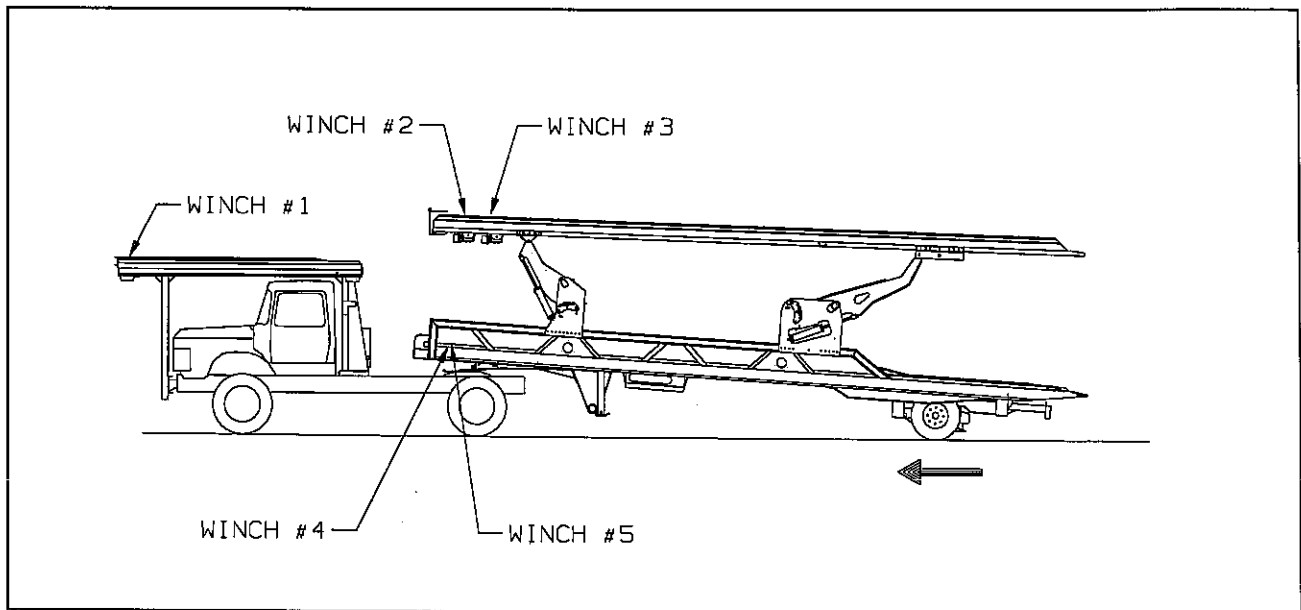
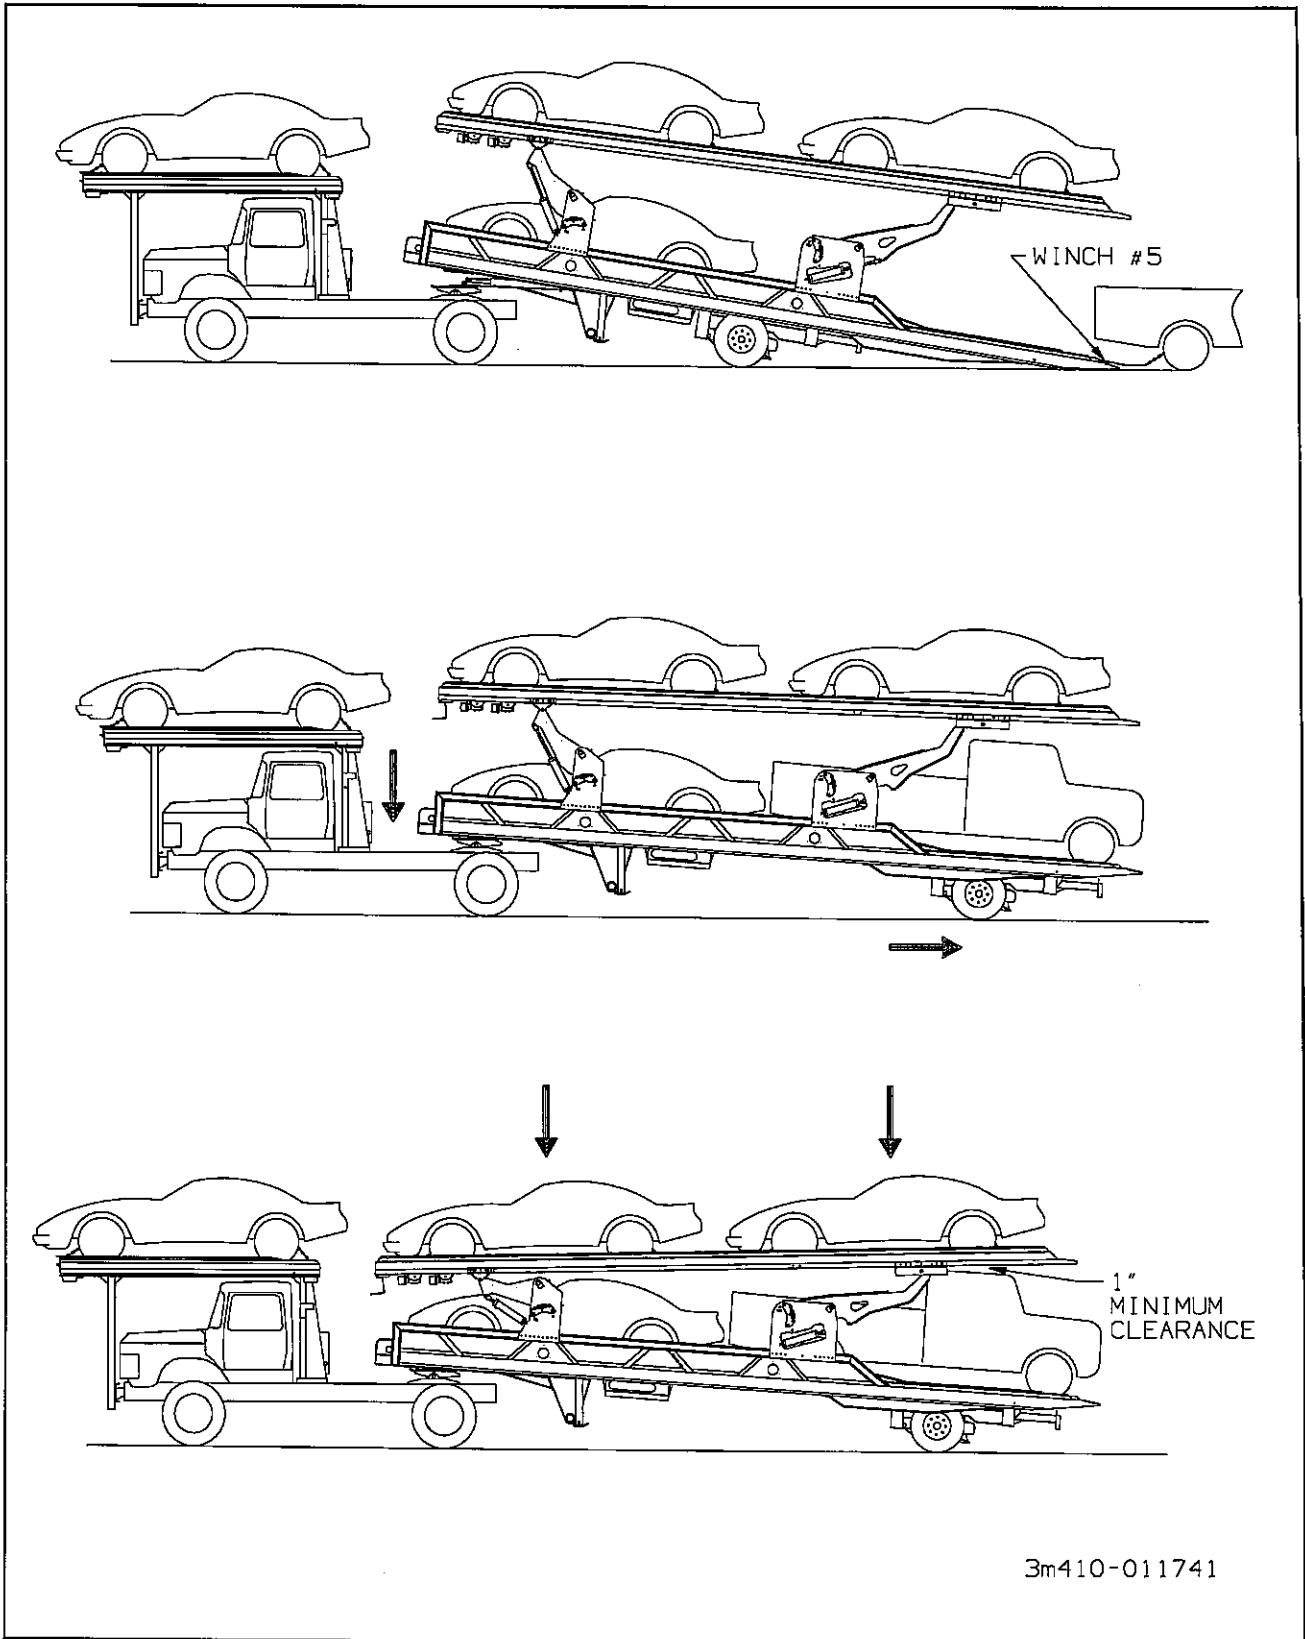

Figure 3-6 Preparation for Loading
Figure 3-11 Loading the Lower Deck
- a. Park the tractor/trailer in a straight line on a level even surface. Set the tractor brakes and release the semitrailer brakes. (See Figure 3-6.)
g. Prepare the first vehicle to be winched onto the trailer. Connect winch #2 (See Figure 3-6) to the first vehicle and pull it to the front of the upper deck. Secure the vehicle so it will not roll forward or backward.
- e. Free-wheel the winch cable from winch #3 (See Figure 3-6) out until it is at the rear of the upper deck so it is accessible after loading the next vehicle.
- f. Connect winch #2 (See Figure 3-6) to the next vehicle and pull it to the front of the upper deck. Make sure there is adequate clearance between the over-cab vehicle and the vehicle on the trailer to allow for swing clearance. 2-1/2 feet clearance is usually required. Secure vehicle with chains (See paragraph 3-11.7).
g. Connect winch #3 (See Figure 3-6) to the next vehicle and pull it to the rear position on the upper deck. (See Figure 3-9.) Secure with chains (See Paragraph 3-11.7).
c. Free-wheel the winch cable from winch #5 (See Figure 3-6) out until it is at the rear of the lower deck so it is accessible after loading the next vehicle.
d. Connect winch #4 (See Figure 3-6) to the next vehicle and pull it to the front of the lower deck as far as possible without interfering with the upper deck. Secure with chains (See Paragraph 3-11.7).
e. Connect winch #5 (See Figure 3-6) to the next vehicle and pull it to the rear position on the lower deck. (See Figure 3-11.) Secure with chains (See Paragraph 3-11.7).
g. Lower the arms; front first, then rear; to allow a minimum clearance of 1" above the vehicles on the lower deck. (See Figure 3-11.)
g. Reel out winch #1 (See Figure 3-6) to allow the vehicle to move off of the Over-the-cab deck and onto the trailer upper deck.
h. After the vehicle is completely on the trailer deck, secure the vehicle so winch #1 (See Figure 3-6) can be disconnected and winch #2 (See Figure 3-6) can be connected to the vehicle.